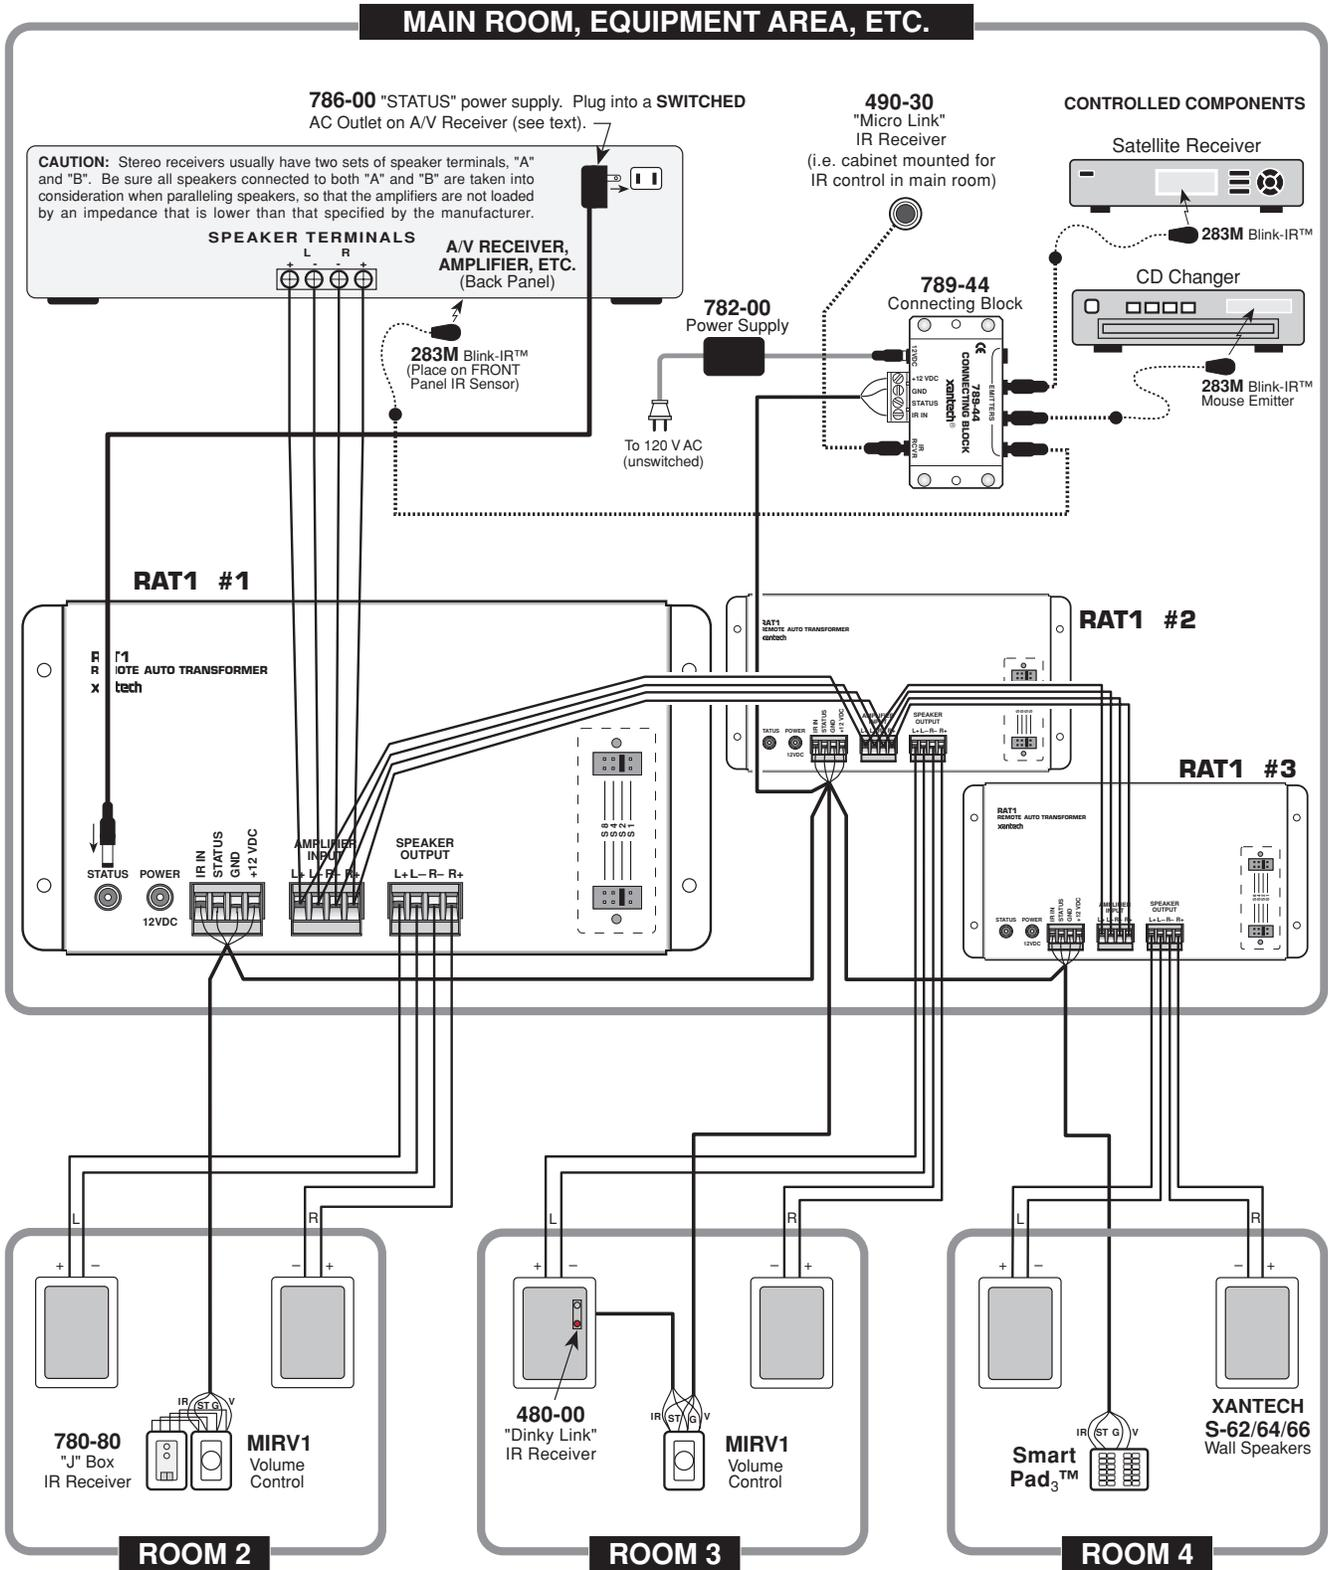
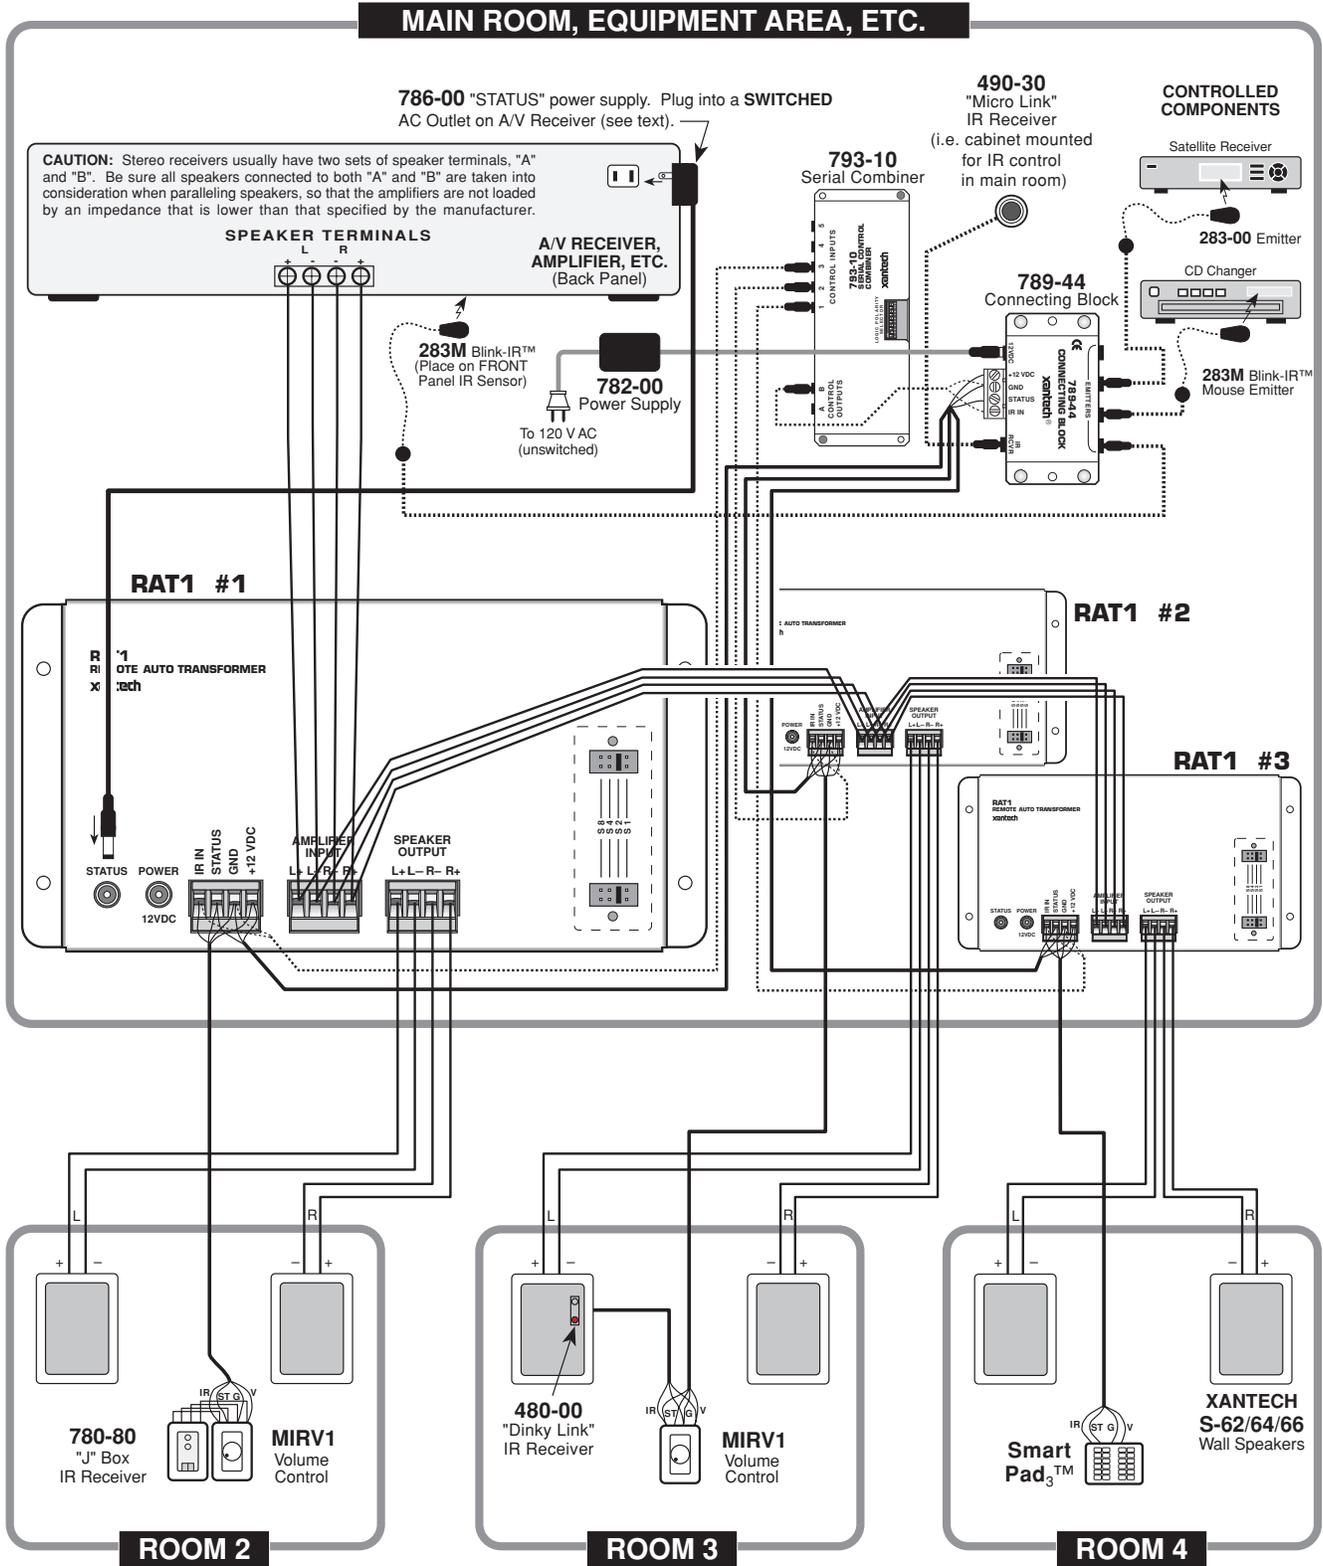

Fig. 3 A RAT1 System Using a Common IR Bus
Fig. 4 A RAT1 Dedicated IR Bus System
Fig. 3 illustrates a typical installation using three RAT1's along with other Xantech products in a 4-room multi-room system. The principles shown should be used as a guide when planning your own specific installations. It is configured as follows:
If you wish to carry remotes that have the same codes from room-to-room, use a Dedicated IR Bus System as shown in **Fig. 4**.
Up to 3 RAT1's plus associated MIRV1's and IR components can be used with one 782-00 Power Supply. (e.g. 9 RAT1's with associated components would require 3 of the 782-00 Power Supplies). Typical power supply connections are shown in **Figs. 3, 4 and 6**.
Fig. 4 illustrates an installation where each remote room has a Dedicated IR Bus going to the RAT1 that controls it. The IR bus is not connected in common as it is in **Fig. 3**. This eliminates the need for dedicated remotes, **allowing you to carry the same remote(s) from room-to-room**. It is configured as follows:
3. In order to control the common source components in a Dedicated IR Bus system, it is necessary to use a 793-00 Serial Control Combiner, connected as shown in **Figs. 4 & 5**. The 793 provides diode isolation between the IR signal lines but allows common operation of the source equipment through the 789-44 Connecting Block, as shown.
8. As in **Fig. 3**, a "STATUS" system is included.